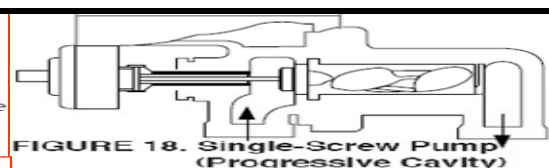

FIGURE 18. Single-Screw Pump (Progressive Cavity)
- This pump has a rotor with external threads and a stator with internal threads. The rotor threads are eccentric to the axis of rotation. Figure 18 illustrates a single-screw pump commonly called a progressive cavity pump.